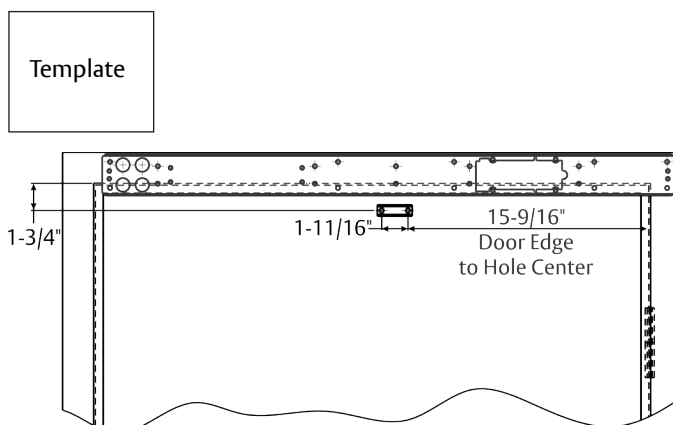

Figure 4
1. Measure and mark first arm mounting hole using template. (Figure 4)